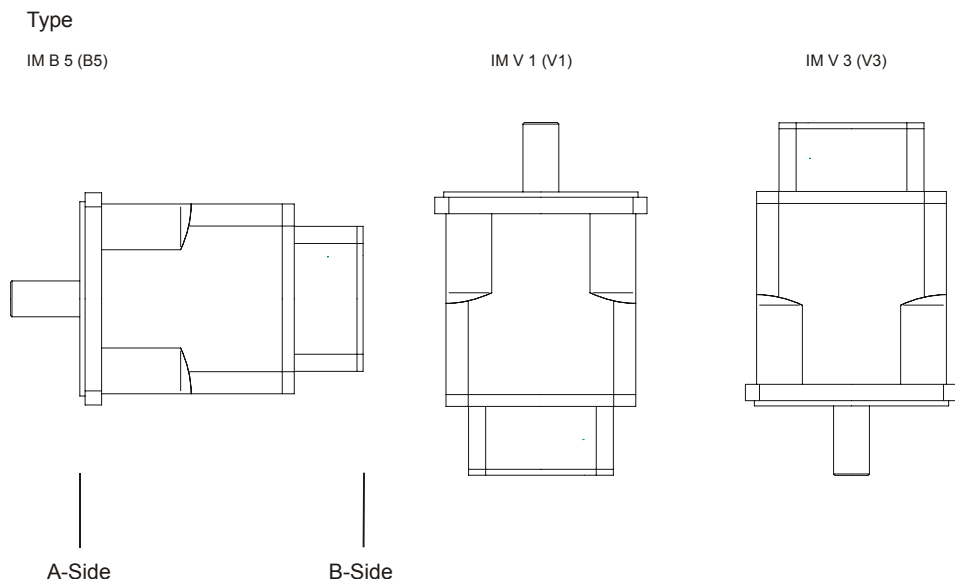

Fig. 2: Mounting Positions of JH5 Motors
- Protect the motors against liquids soaking into the bearing in case the shaft end is installed upwards (design V1); refer to Fig. 2.
Installation	<ul style="list-style-type: none"> • Horizontal position (B5) to Fig. 2 on Page 22 • If the module is operated at an altitude higher than 1,000 m above sea level, derating will be required. • A clearance of at least 10 cm above and below the motor must be maintained to provide proper air circulation.